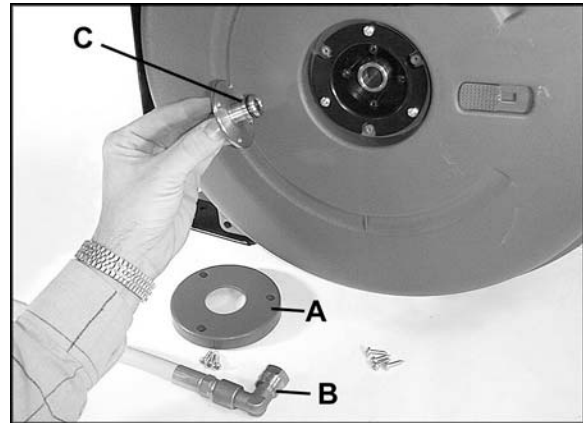

Figure 4
2. Remove the cover (A, Figure 4) and unscrew the fitting (B, Figure 4) with an open-end wrench. Remove the four screws from the swivel spool (C) and pull out swivel spool.